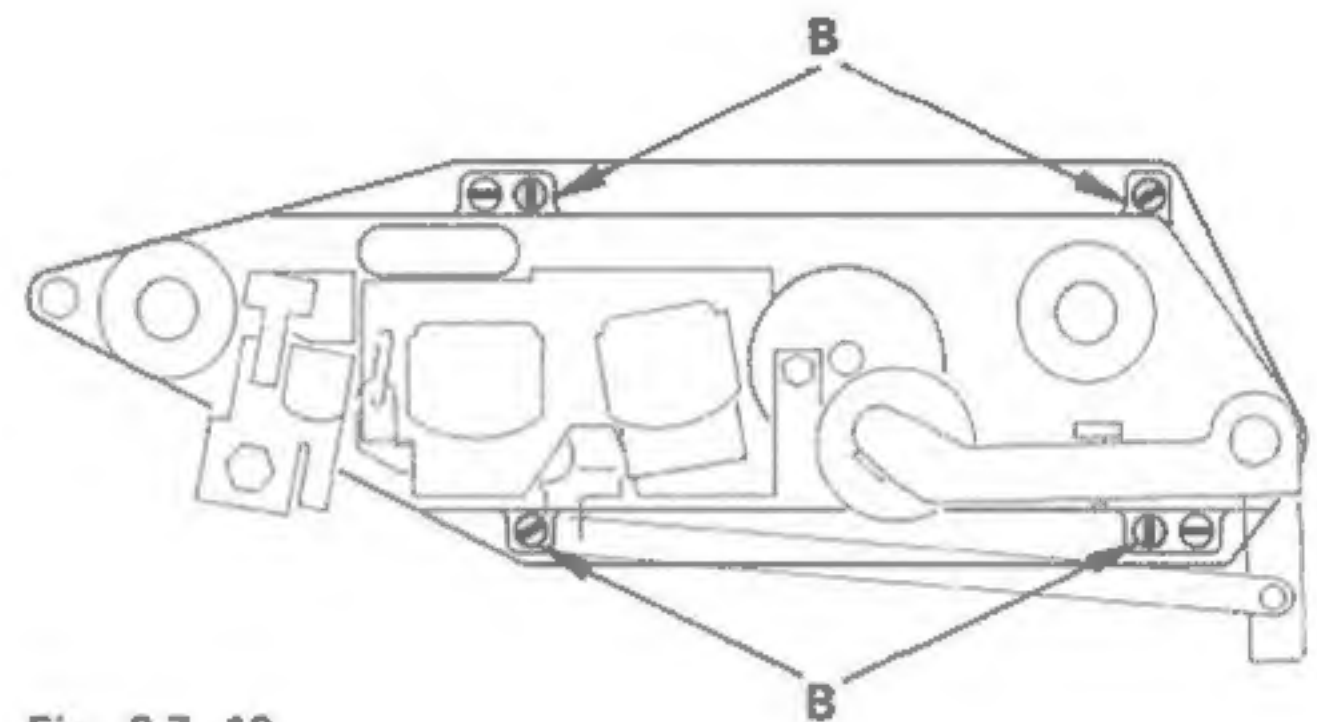

Fig. 3.7-10
- Unscrew motor fasteners B (fig. 3.7-10) on headblock. The other screws on headblock shall not be touched as they retain the headblock itself.